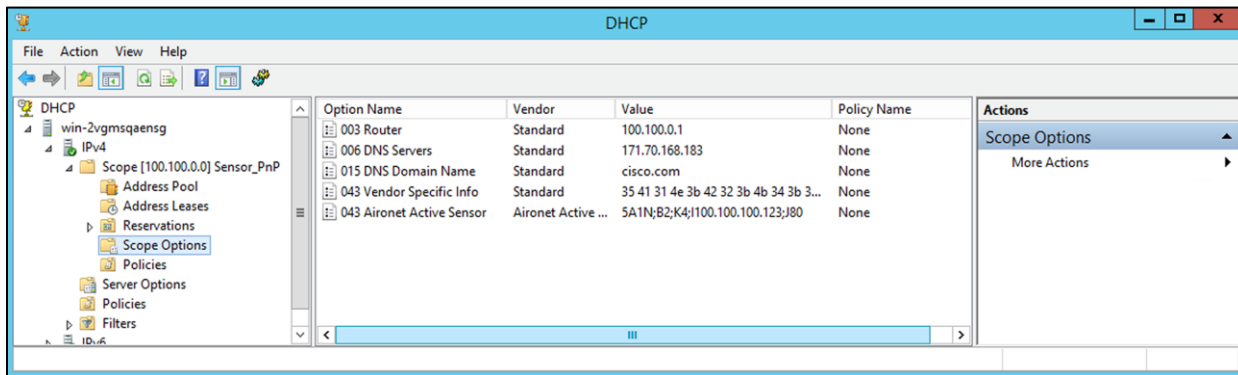

Figure 38.
- Within the **Scope Options** directory, and under the **Option Name** header, a custom option 43 field for the Aironet Active Sensor should appear. You’ve now completed configuring the conditional option 43 redirection using the device-side VCI string (**Figure 38**).